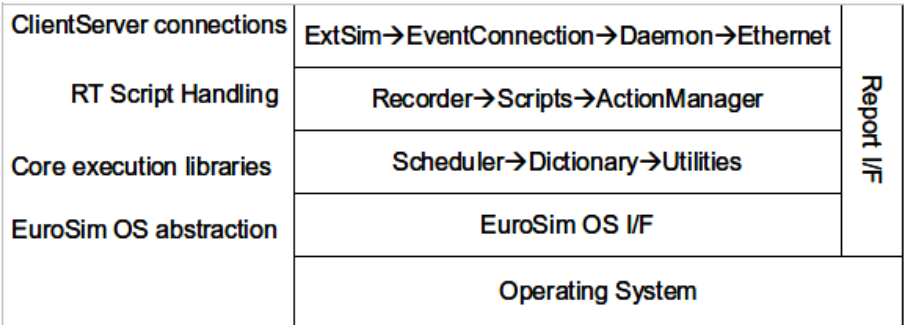

Figure 29.1: EuroSim Embedded Architecture
each fill in specific functionalities in the EuroSim core. Figure 29.1 shows a schematic of the basic composition.
- The upper layer in figure 29.1 provides network connection services. This layer is normally not available in embedded simulators.
Note that figure 29.1 does not show add on libraries as the SMP and CPP interfaces. These can also be included if desired. The integration and tuning of libraries in a EuroSim embedded library must be built in by the EuroSim consortium.